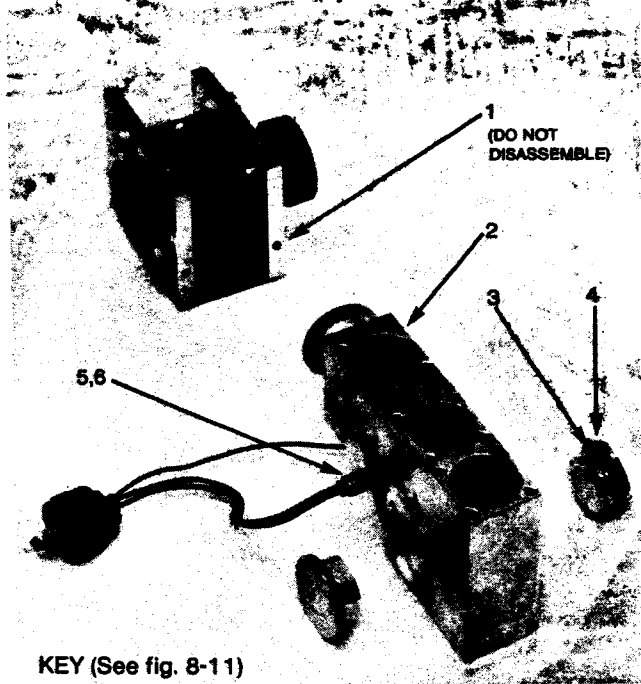

Figure 6-11. Magnet Assembly, Heater
1. Remove the three electrical plugs at the top of the spectrometer tube. Unplug the spectrometer tube heater. Loosen the compression fitting and remove the spectrometer tube to a convenient bench. (Figure 6-11 is an "exploded" view of the spectrometer tube.)